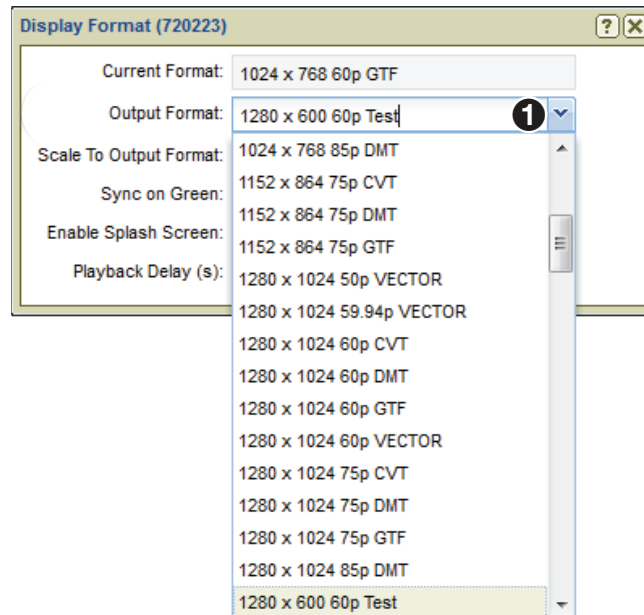

Figure 149. Display Format Menu
17. From the **Actions** menu bar at the bottom of the **Devices** page, click **Format**. The **Display Format** dialog box opens (see figure 149).